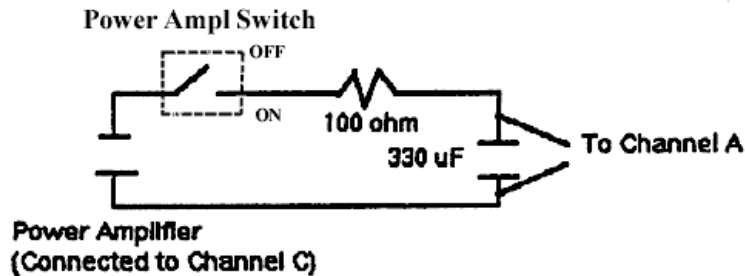

Figure 3: *RC* Circuit
1. Connect the circuit as shown in Figure 3.